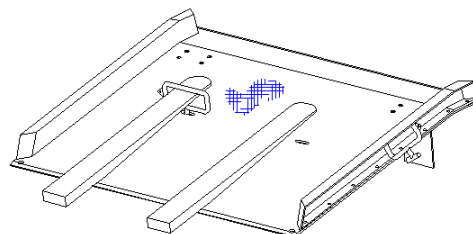

FIGURE 3
- b) For Dock Plates/Dock Boards fitted with fork truck lifting handles, remove both of the handles from their stored position and insert into the slots provided. See Figure 3. Set the fork positions to match the fork handles. Pick up the Dock Plate/Dock Board with the fork truck and manoeuvre into position.